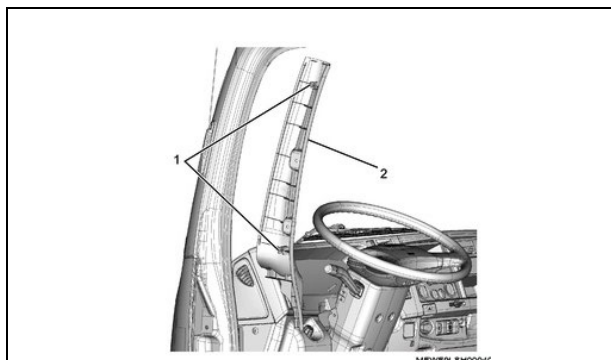

Figure 13
10. Pull the front door weatherstrip away from the front pillar trim cover. Then pull the front pillar trim cover up and remove it from the front pillar. (See Figure 13.)